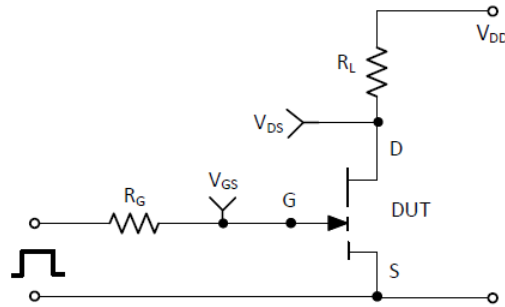
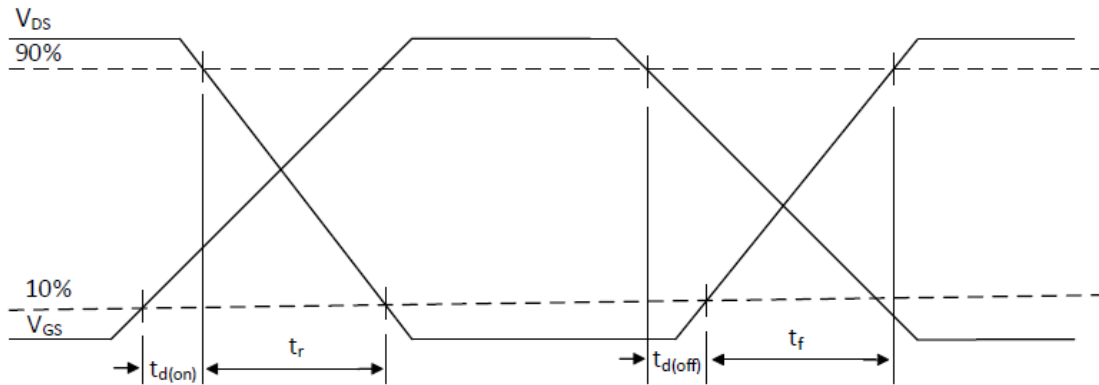

Figure 16: switching time test circuit
Figure 17: switching time waveforms
(6) See Figure 16 for timing test circuit diagram and Figure 17 for definition waveforms